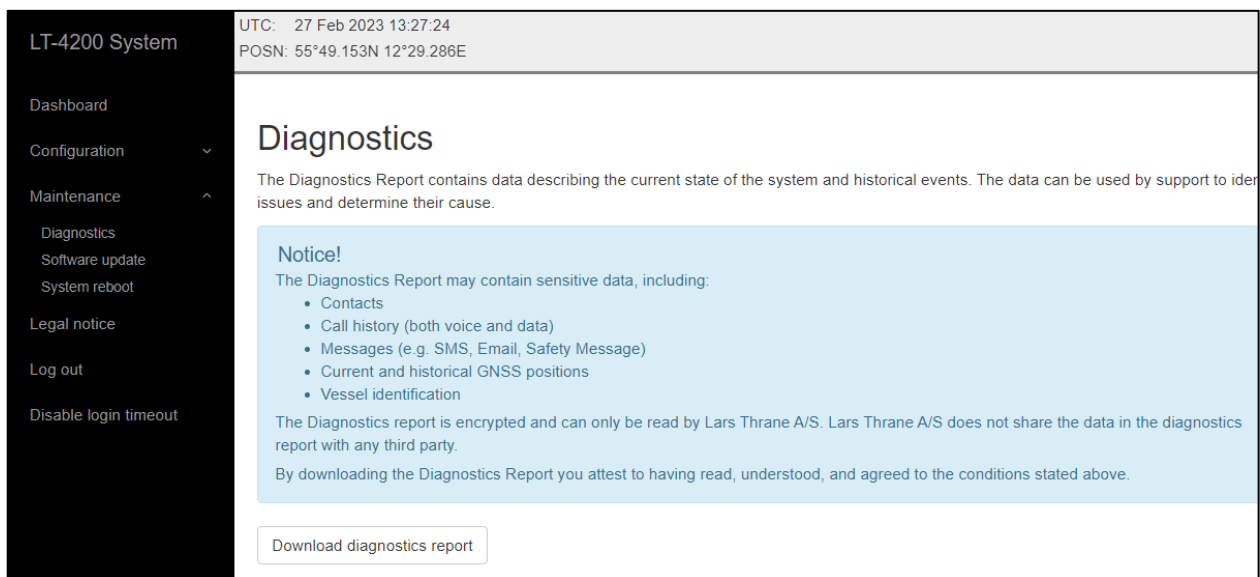

Figure 120: Web server (download diagnostics report)
**NOTE:** The diagnostic report is encrypted and can only be read by Lars Thrane A/S. Lars Thrane A/S does not share the data in the diagnostics report with any third party. By downloading and sending the diagnostic report to Lars Thrane A/S you attest to having read, understood, and agreed to the conditions stated under the Notice! (highlighted in Figure 120 above).